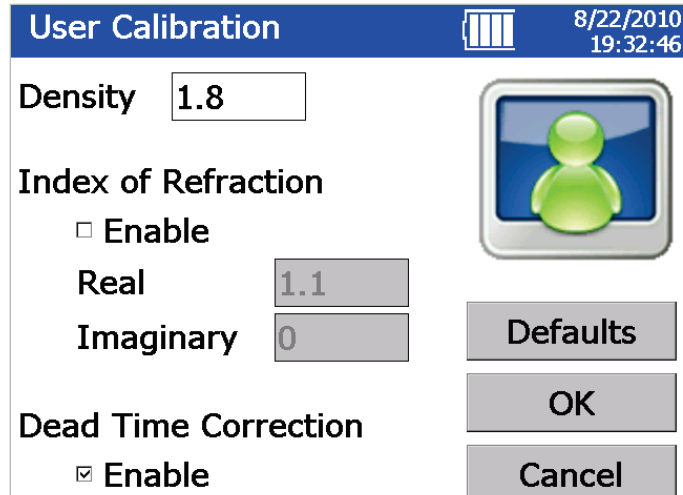

Figure 2. User Calibration screen
- d. Enter your effective density in the Density box as shown in Figure 2.